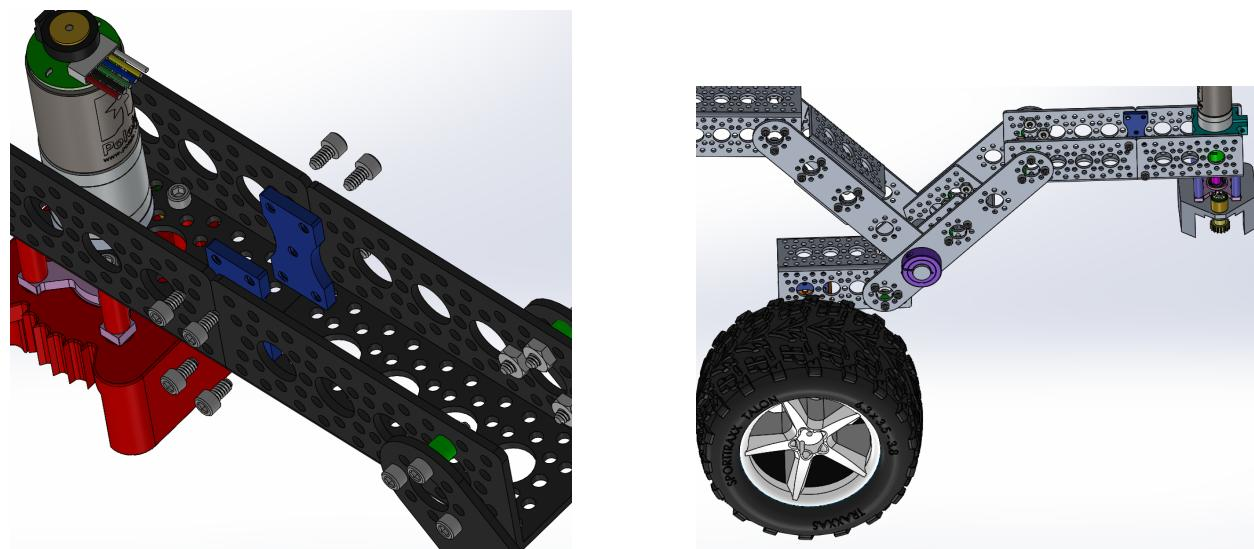

Figure 4: Attaching the corner steering assembly
2. Attach one of your corner steering assemblies to the rocker bogie assembly using channel connectors **S6** and screws **B1** as shown in Figure 4. Make sure that you pick a corner steering assembly that has the encoder facing outwards (on the same side as the middle wheel from the previous step).